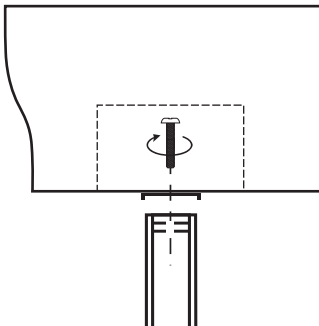

Figure 4
- 5 Bring Mail Vault to installed post. Raise into place and center adapter plate on top of 4" x 4" post. From inside of Mail Vault begin threading large hex head bolt through center hole in mail vault and adapter plate. Use Large Allen wrench to continue tightening down, firmly tighten. (See Figure 4)